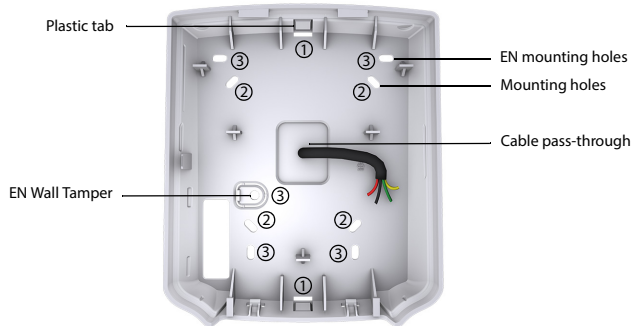

Figure 3: K32+ Backplate
- If using surface mounted cabling, you will need to knock out the plastic tab (#1) at the top or bottom of the K32+ backplate in order for the cable to pass through, refer to Figure 3.
- Mount the backplate to the wall by securing a M3.5 #6 screw in each of the dedicated mounting holes and tamper hole while ensuring that the top is up, as shown in Figure 3. For EN installations, use the designated mounting holes (#3).